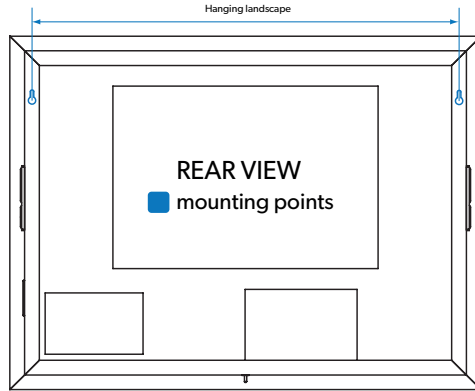

Fig 2. - Mounting points
3. Remove the mirror and mark the mounting points on the wall, *see Fig. 2*. **Please ensure that all marked mounting points accurately match up with the fixing points on the mirror.**